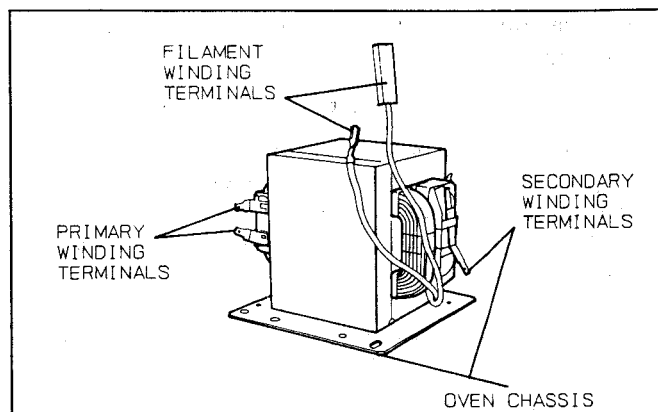
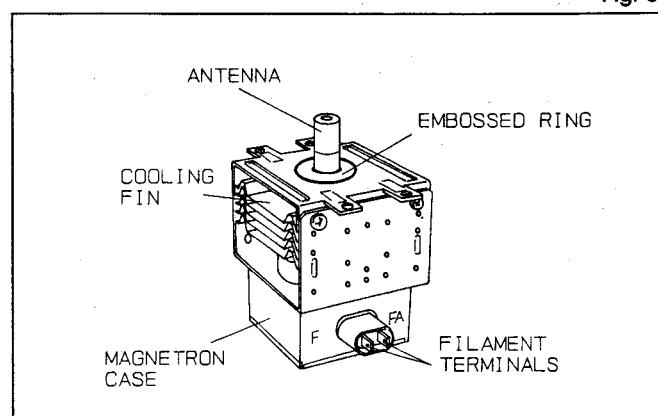

Fig. 34
Fig. 35
- (G) Remove the lower heater panel by removing 5 screws. (Fig. 34)
- (H) Remove the adiabatic material A.
- (I) Remove the lower heater (heater A) by freeing the 4 hooks and removing 2 screws. (Fig. 35)
1. High voltage transformer (See Fig. 34)
- (A) Remove connections from the transformer terminals and check continuity.
- (B) Normal (cold) resistance readings should be as follows:
- (A) Check continuity of capacitor with meter on highest OHM scale.
- (B) A normal capacitor will show continuity for a short time, and then indicate 9MΩ once the capacitor is charged.
- (C) A shorted capacitor will show continuous continuity.
- (D) An open capacitor will show constant 9MΩ.
- (E) Resistance between each terminal and chassis should be infinite.
- (A) Isolate the diode from the circuit by disconnecting the leads.
- (B) With the ohmmeter set on the highest resistance scale, measure the resistance across the diode terminals. Reverse the meter leads and again observe the resistance reading. Meter with 6V, 9V or higher voltage batteries should be used to check the front-to-back resistance of the diode, otherwise an infinite resistance may be read in both directions.
4. Magnetron (See Fig. 35)
- (A) Isolate magnetron from the circuit by disconnecting the leads.
- (B) A continuity check across magnetron filament terminals should indicate one ohm or less.
- (C) A continuity check between each filament terminal and magnetron case should read open.